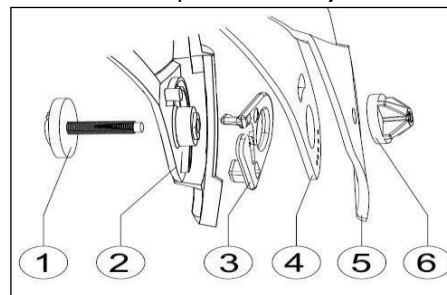

Fig. 1
- Unscrew the screws (fig. 1, point 1 and 6) on the sides.
- Remove the front-plate (fig. 1, point 5), having care to remove the central part from its support.
- Remove the visor (figure 1, point 4).
- Remove the On/Off stopper (fig.1, point 3).
- Remove the part of the helmet (fig. 1, point 2).
- Position the screw in the special housing found in the shell (Fig. 1 point 1)
- Insert the On/Off stopper (Fig. 1 point 3)
- Insert the visor (Fig. 1 point 4)
- Position the mask (Fig. 1 point 6)
- Lightly tighten the screw (Fig. 1 point 1 and 6)